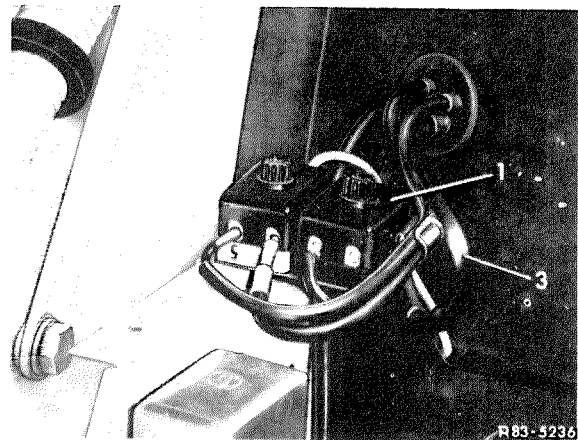

Fig. 83-11/5
By this operation additional preheated air is drawn from the front foot space by the heater (1) (Fig. 83-11/2). In the interseason period with its relatively high air humidity (windows misted up on the inside) the air conditioning system can be switched on in conjunction with the car heater. The interior of the car is thus dehumidified by the evaporator of the air conditioning system.